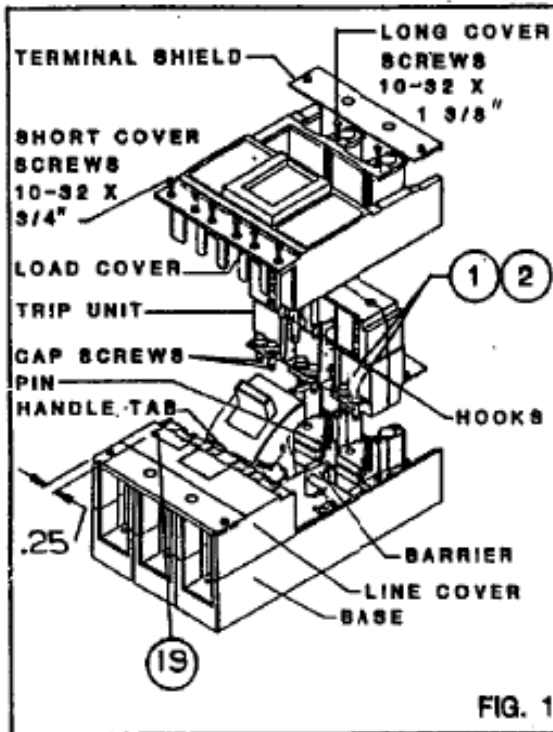

FIG. 1
2. Remove terminal shield from line and load side of breaker frame. Two 8-32 screws each. See Figure 1.
3. Remove load cover from breaker frame. Six 10-32 x 3/4" screws and two 10-32 x 1-3/8" screws. See Figure 1.
4. Prior to lowering trip unit into place as shown in Figure 1 remove on left pole only the two socket head cap screws (Item 1) and the two Belleville spring washers (Item 2) and discard.
5. Lower trip unit into place as shown in Figure 1. The two hooks on the trip unit must fit over pins on frame. Handle may be removed to ease assembly.
16. Affix labels (Item 19) to front of both circuit breakers as shown in Fig. 1.